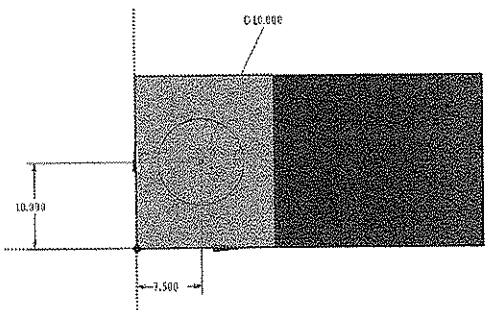

Figure 3-106 Generating the dimensions of the sketch for cutout feature
8. Generate the dimensions of the circle and specify their values in the **Details View** window, refer to Figure 3-106. The sketch gets fully-defined and is ready to be used for feature creation.